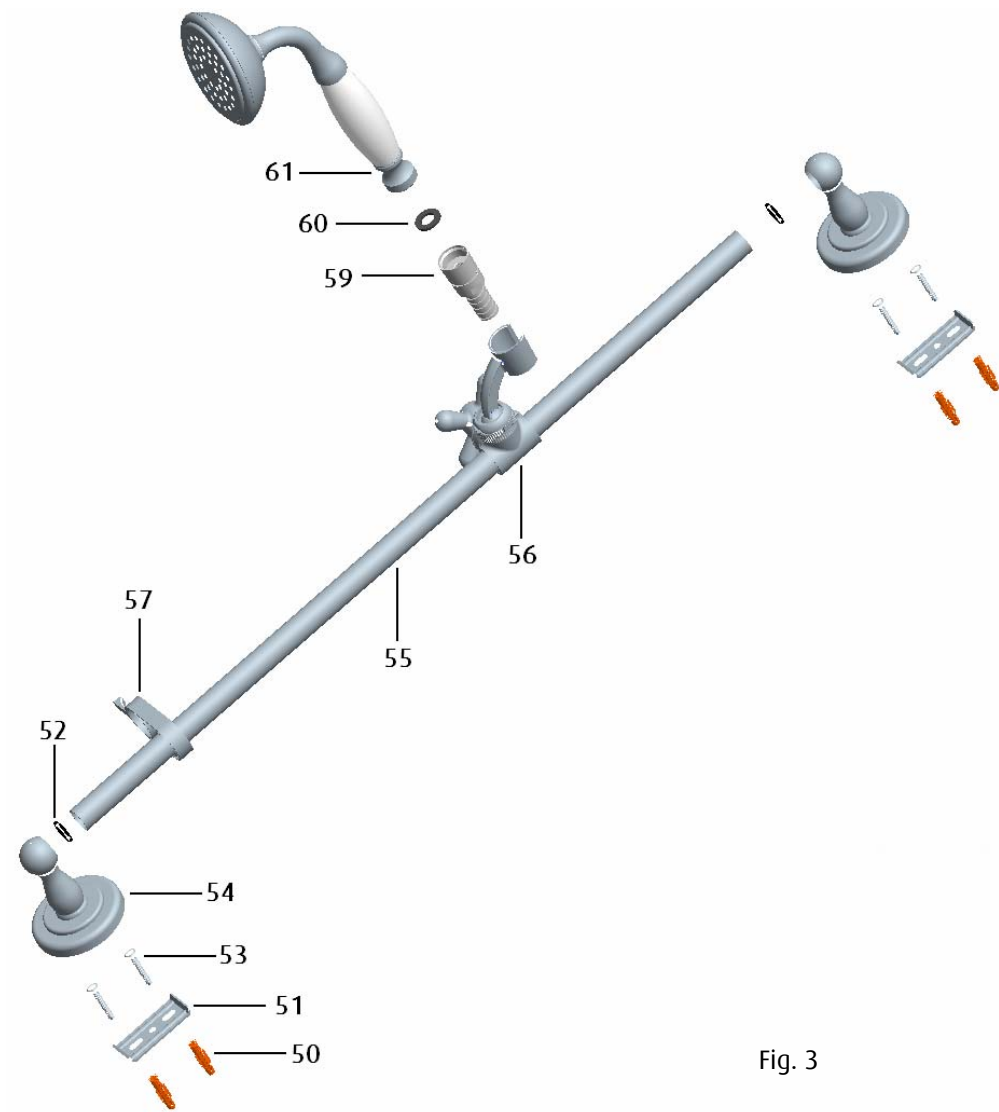

Fig. 3
4.6 Adjustable Riser Installation (See Fig. 3)